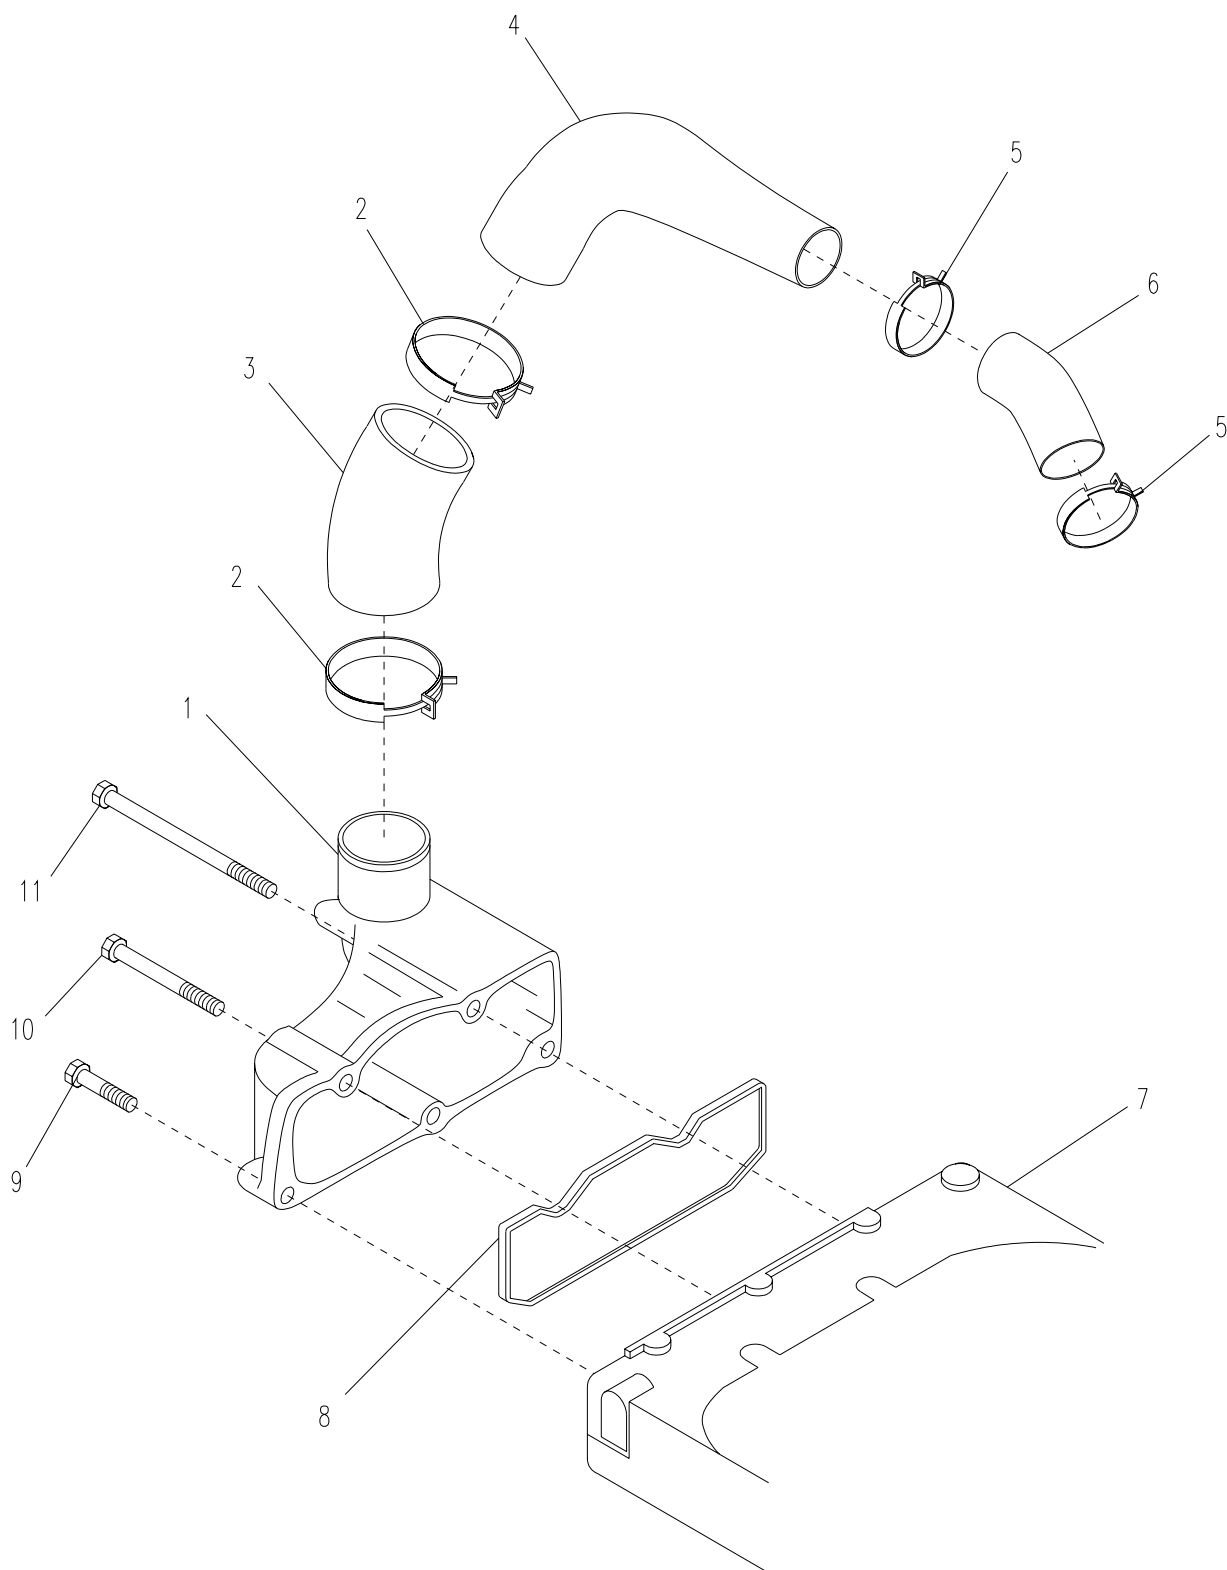

Figure 5-27. Intake Manifold
- a. Loosen four clamps (2 and 5, Figure 5-27) and remove hoses (3 and 6) and elbow (4).